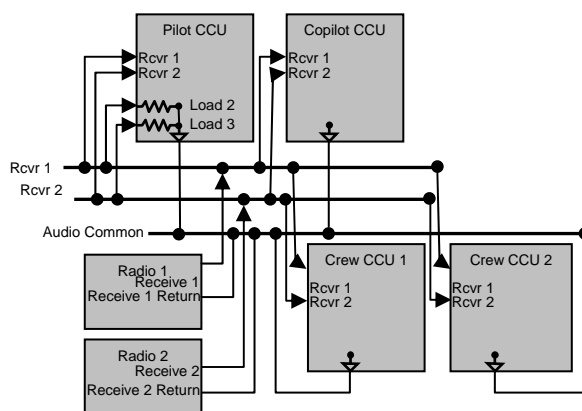

Figure 2 – Radio Receive Audio
2. Receiver Audio – Each radio receiver drives any CCU wired to that radio. (Fig 2)